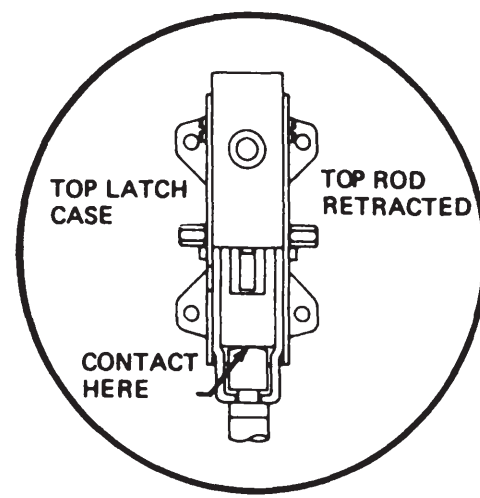

FIG. 4
- Attach top rod with rod guide. (See Fig. 3) adjust rod length so connector fits as shown (Fig. 4)